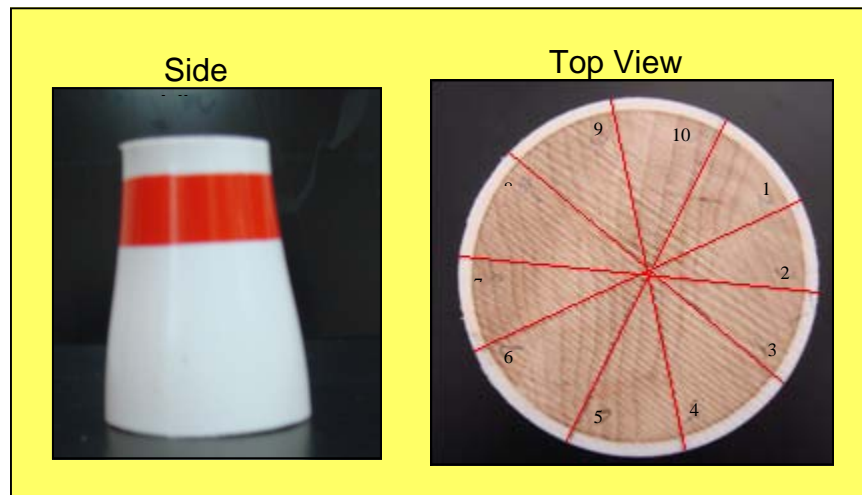

Figure 4 - Side and top view of the neck segment of the bowling pin. The top view shows the 10 divisions drawn on the segment.
- Set the neck segment of the bowling pin on a work surface and draw 10 “pie slices” on the top of the segment and number each section 1-10 with the pencil and straight edge as seen in figure 4.